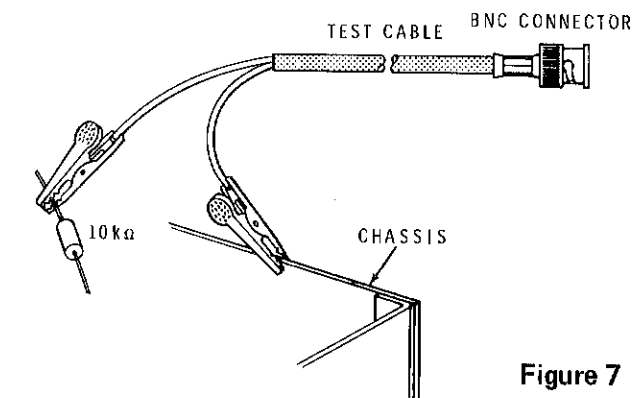

Figure 7
4. When you measure pulses of high amplitude and fast rise time (rise time  $\geq 50$  nanoseconds and amplitude  $\geq 200$  mV), put a 10 k $\Omega$ , 1/4-watt resistor in series with the test cable to eliminate any ringing in the test cable. See Figure 7.